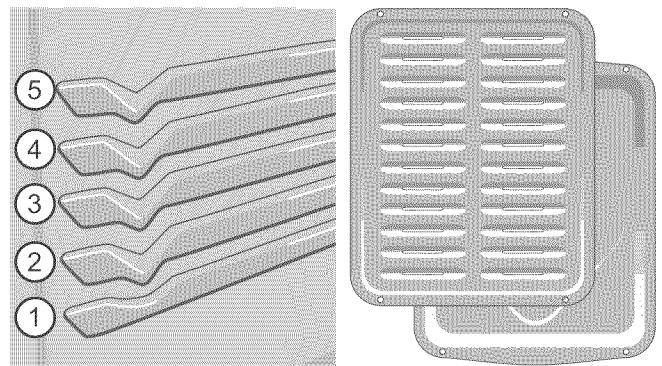

Figure 35: Broil rack positions and broil pan with insert
2. Position bakeware in oven to the preferred rack position. (Figure 35).